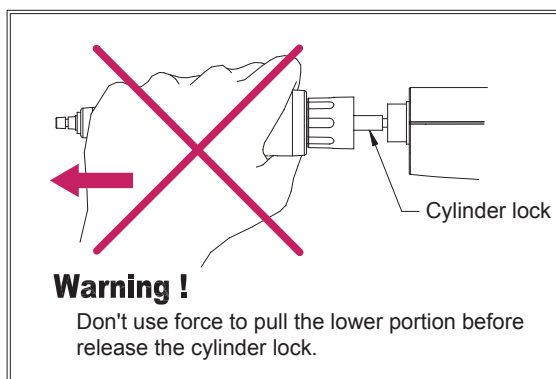
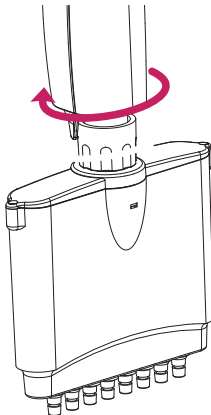

Figure 9: Wrong operation of Lower Part disassembly
Figure 10: Rotate the connecting nut clockwise.
Only the lower part of the pipette can be steam-autoclaved (121°C, 1 bar, 20 minutes). The autoclaved parts must be allowed to dry completely at room temperature for at least 2 hours. You can follow Figures 10~13 to disassemble the pipette. Please DO NOT use excessive force to pull down the lower part before releasing the cylinder lock as shown in Figure 9. This action may break the connection mechanism of the lower part.
2. Loosen the lower part of the pipette by rotating the connecting nut in the clockwise direction as shown in Figure 10.